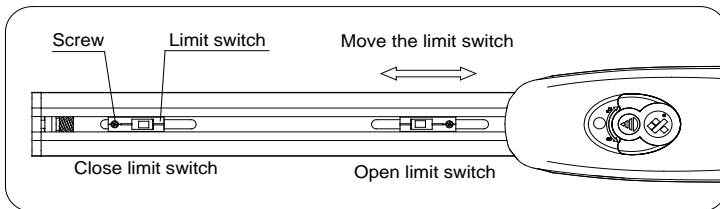

Fig.18
- Move the close limit switch into the required position and tighten the limit switch lock screw.(see Fig.18)